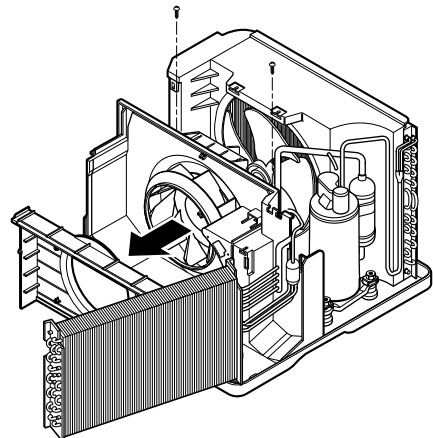

Figure 6
10. Pull the hook out of orifice by pushing the tabs and remove it. (See Figure 6)